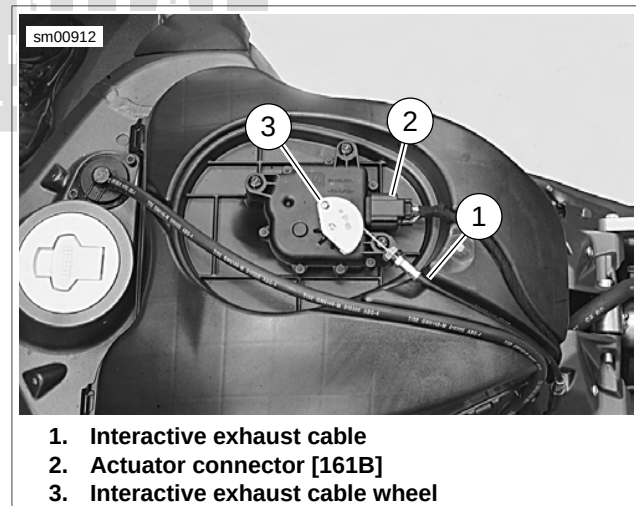

Figure 7-105. Exhaust Actuator (XB12 Models)
4. See Figure 7-105. Separate exhaust actuator harness connector [161B] (2) at main harness.
7. See Figure 7-105. Disconnect connector [161B] (2) from actuator.
1. See Figure 7-105. Connect actuator connector [161B] (2) to actuator.
4. See Figure 7-105. Connect exhaust actuator harness connector [161B] (5).